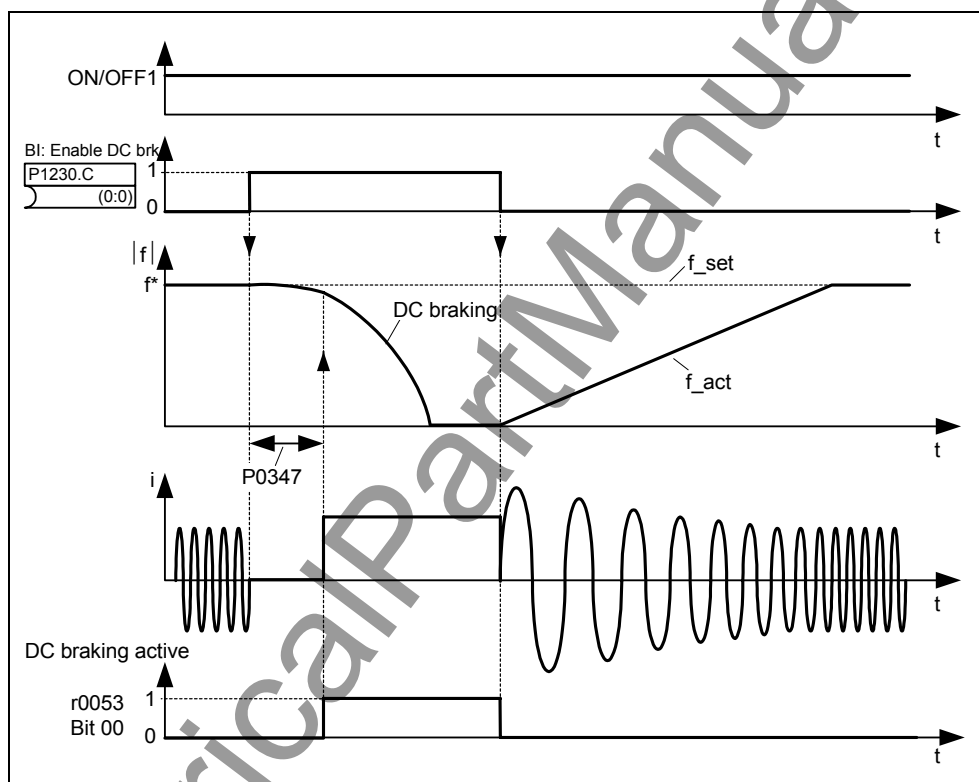

Fig. 3-64 DC braking after external selection
**Sequence ②**
1. Enabled and selected using BICO parameter P1230 (refer to Fig. 3-64)